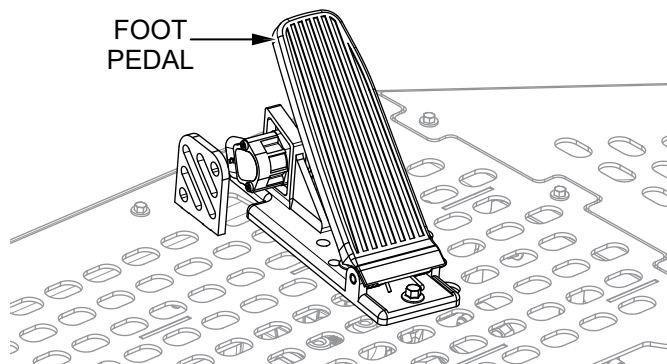

Figure 23. Foot Pedal
The **foot pedal** (Figure 23) controls engine and rotor speed. The position of the foot pedal determines the rotational speed of the rotors. Slow rotor speed is obtained by slightly depressing the foot pedal. Maximum rotor speed is obtained by fully depressing the foot pedal.
1. Start the engine and depress the **foot pedal** (Figure 23) to increase rotor speed to the desired speed.